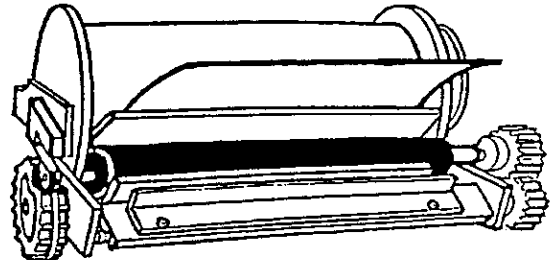

Figure 4
7. Feed the paper up between the GREEN bar of the cartridge and roll of the paper. Paper must rest on top of the cartridge as illustrated in figure 4.